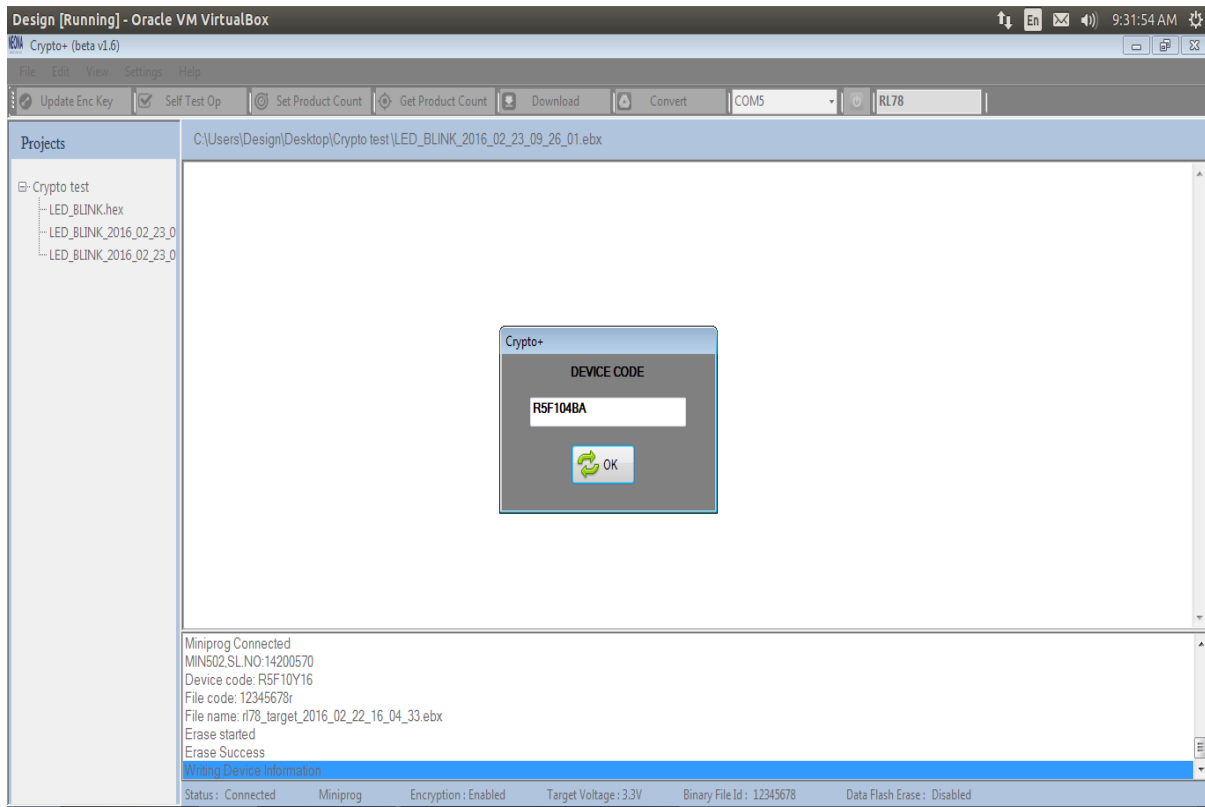

**Figure 2.32**
**STEP 4:** If connection is established, the connect button in the application will turn green and all programmer details will appear in the text view as shown in the figure 2.32.